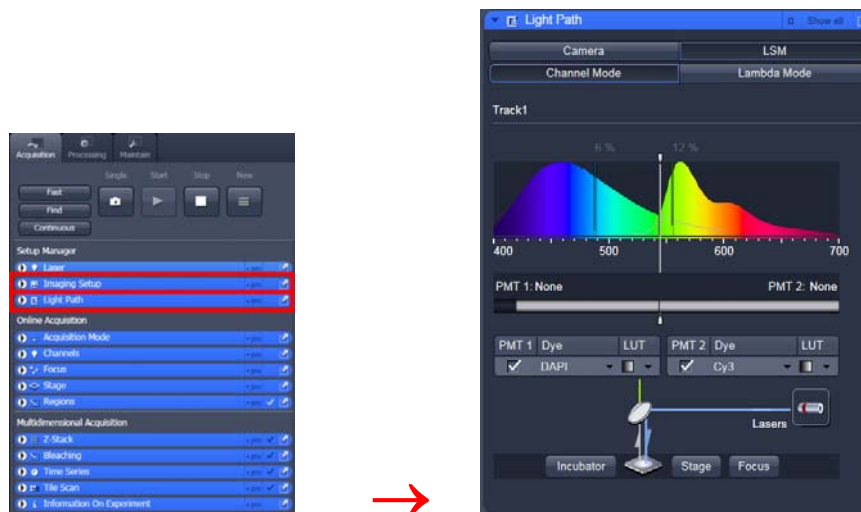

Fig. 16 Light Path tool for a single track (LSM 700)
The open **Light Path** is shown in Fig. 16.
- Click on the **LSM** button in the light path tool (Fig. 16).